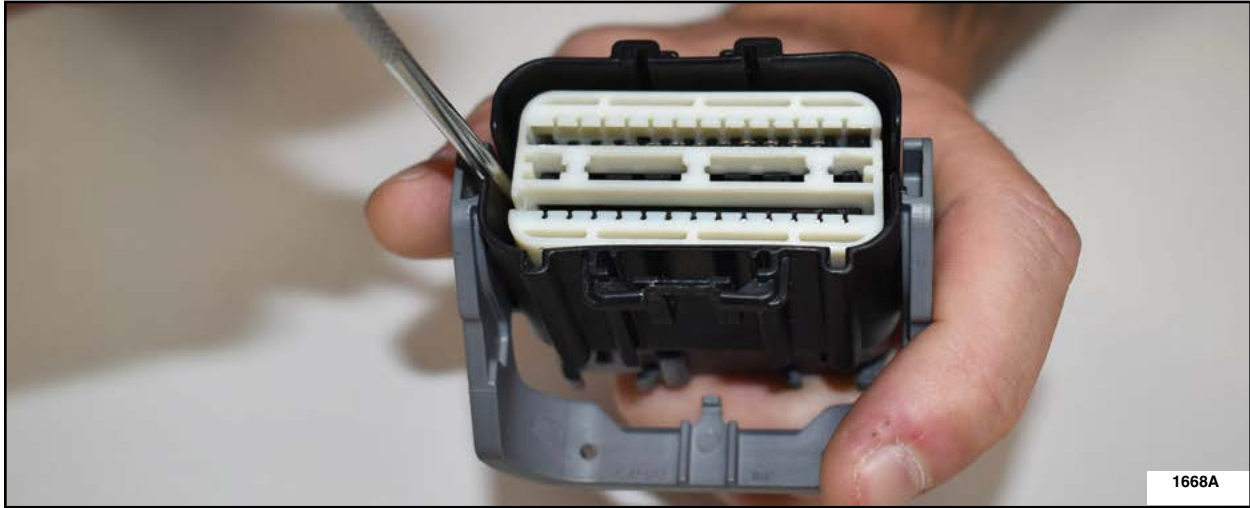

FIGURE 19
- **Female Side Pigtail**, using a 90° pick ensure that the white pin terminal locking tab is positioned up, but Not removed, in the *new* female pigtail connector hard shell as shown in Figure 19.